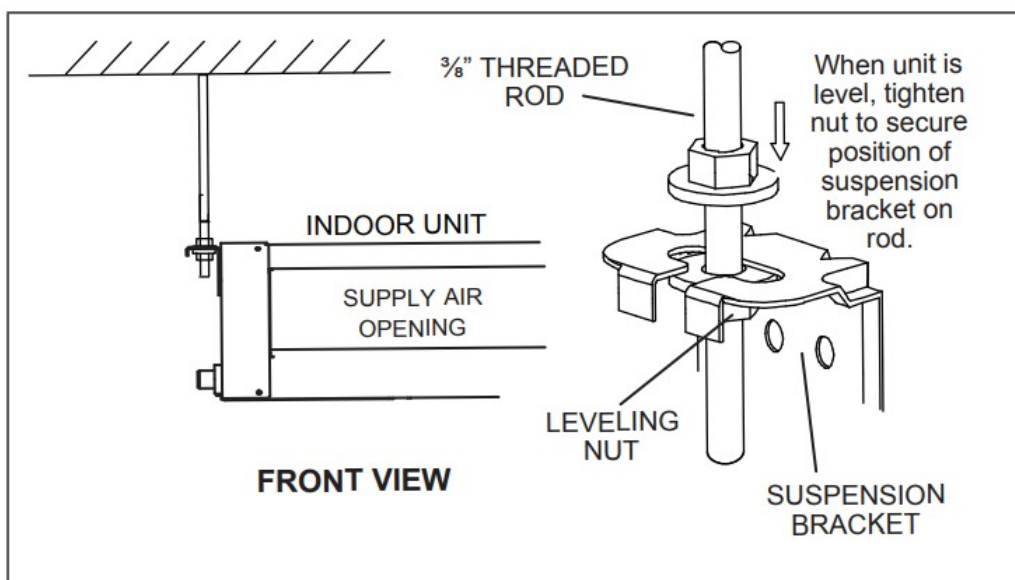

Figure 15. Suspending Hardware
3. Slide one nut and one washer onto each threaded rod. Use electrical tape to keep the washer from failing off. Position the nuts slightly above the final resting place of the four suspension brackets. See "Figure 15. Suspending Hardware"